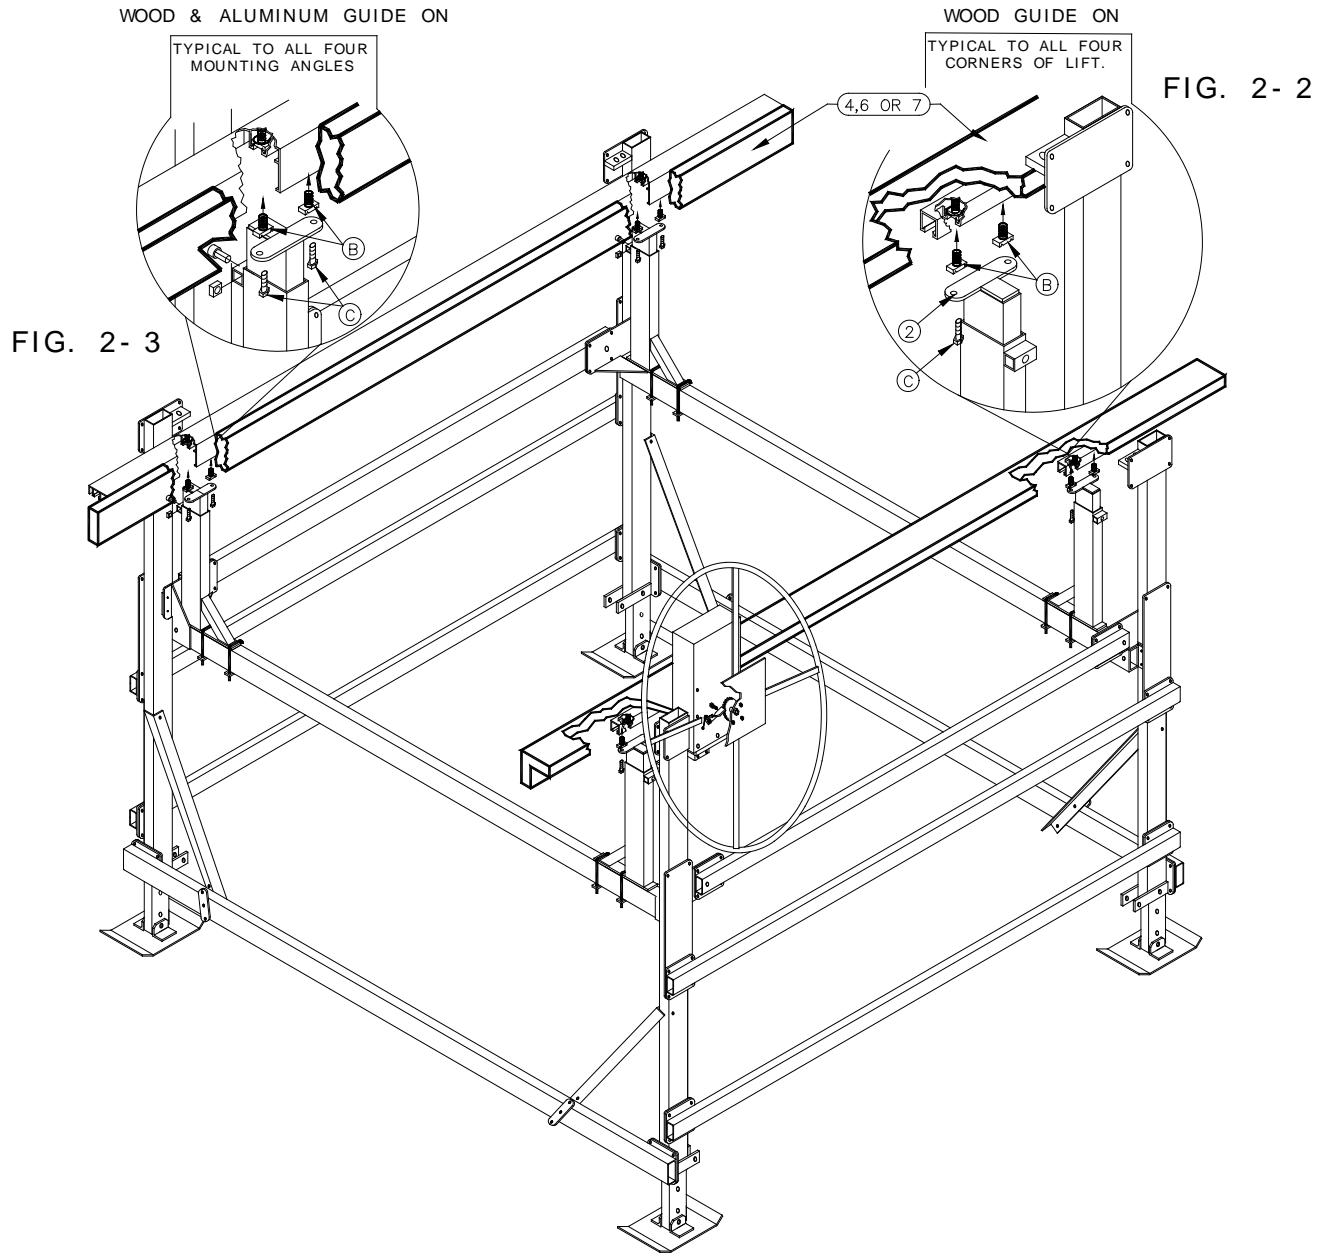

Figure 2-2 & 2-3.
1. (Refer to Figure 2-2 & 2-3) Position a Heavy Duty Guide On (4), (6), or (7), on top of the Upper Tube assembly (2), so that the aluminum channel (pre-assembled to wood) rests on top of both Upper Tube mounting plates.
2. Insert two spring nuts (B), into the channel as shown and turn to lock in place on channel ridge. Compress spring to slide into position. Insert two 3/8" HHCS (C), through the mounting plate and into the spring nuts. **(DO NOT TIGHTEN AT THIS TIME)**. Repeat for the other end of the Guide On.